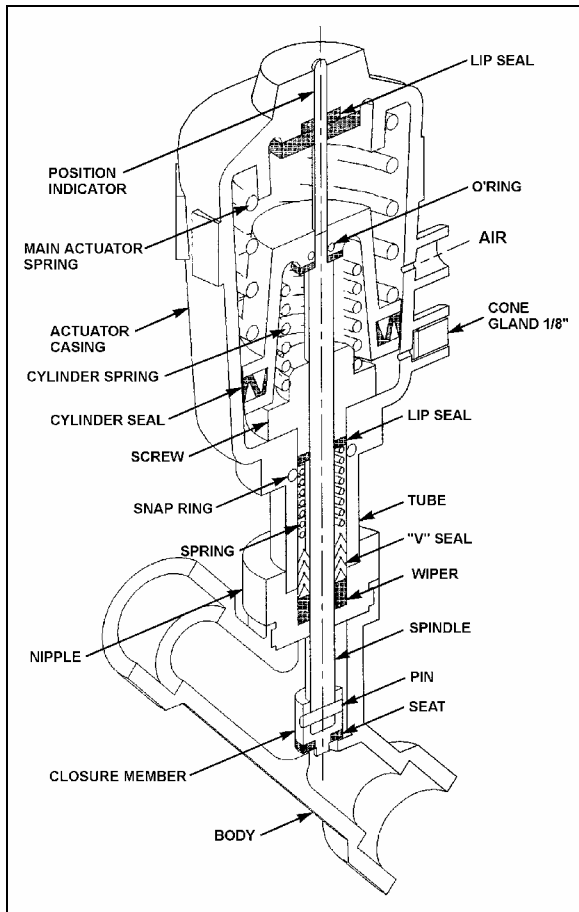

FIGURE 45: PNEUMATIC WATER VALVE 22241
2. The water valve need not be removed from the line. Unscrew nipple, the actuator casing, tube, spindle and closure member can be removed (Fig. 45).